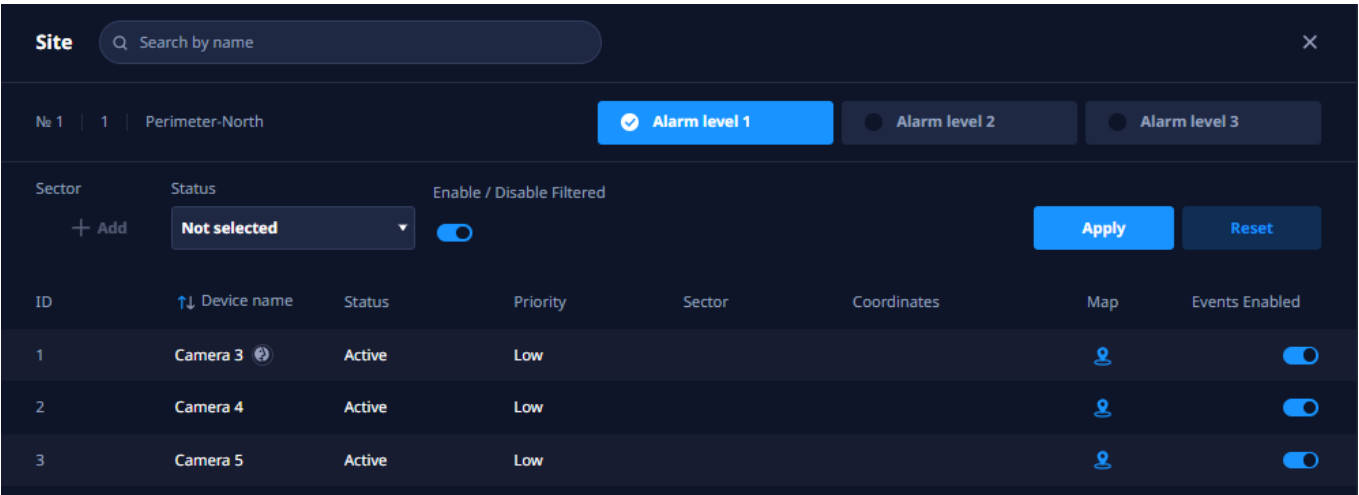

Figure 60. List of site devices
- 2. In the opened window (see Figure 60), filter the devices by name using the search field at the top. Additional filtering is available by location via the **Sector** field and by current operational state via the **Status** field.